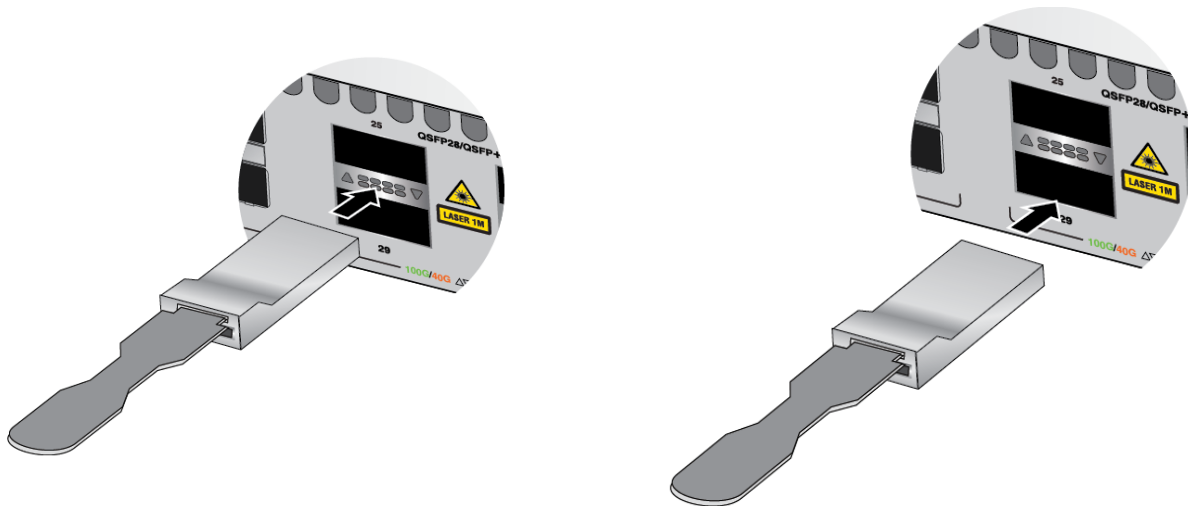

Figure 133. Installing 100Gbps QSFP28 Transceivers in Base Ports 25, 29, 33, 37
- ❑ 100Gbps QSFP28 transceivers for ports 25 to 37: refer to Figure 133.